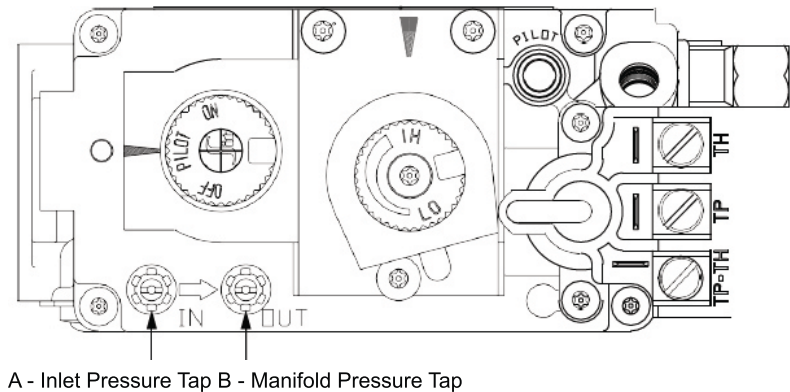

Figure 12.2 - Pressure Check Taps
- 1. Loosen the inlet (IN) pressure tap by turning screw counterclockwise. See (A) in Figure 12.2.
- 8. Disconnect hose and tighten the inlet (IN) pressure tap by turning screw clockwise. Screw should be snug. Do not over tighten.
- 9. Relight pilot and turn the gas control knob to ON. Reattach manometer to the inlet pressure tap (A) to verify the tap is completely sealed. Manometer should read no pressure.
- 2. Loosen manifold (OUT) pressure tap by turning screw counter-clockwise. See (B) in FIGURE 12.2.
- 7. Attach the manometer to the manifold pressure tap (B) to verify it is completely sealed. The manometer should read no pressure when pilot and burner are on.